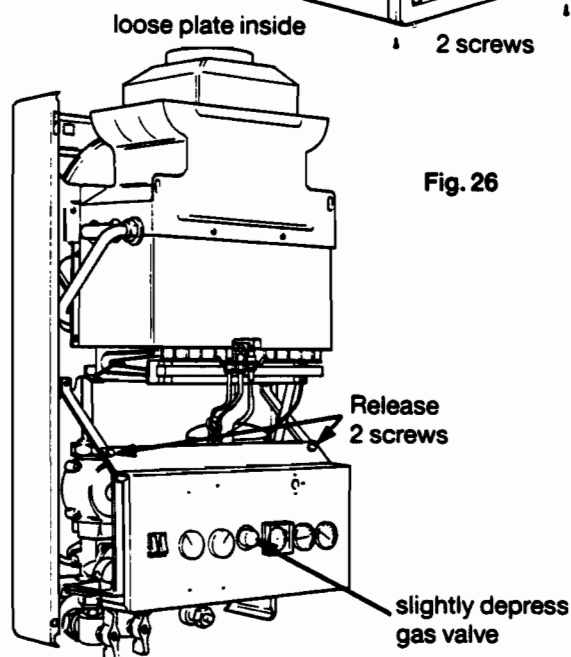

Fig. 26
8.4.2 To open controls fascia (fig 26 & 27)